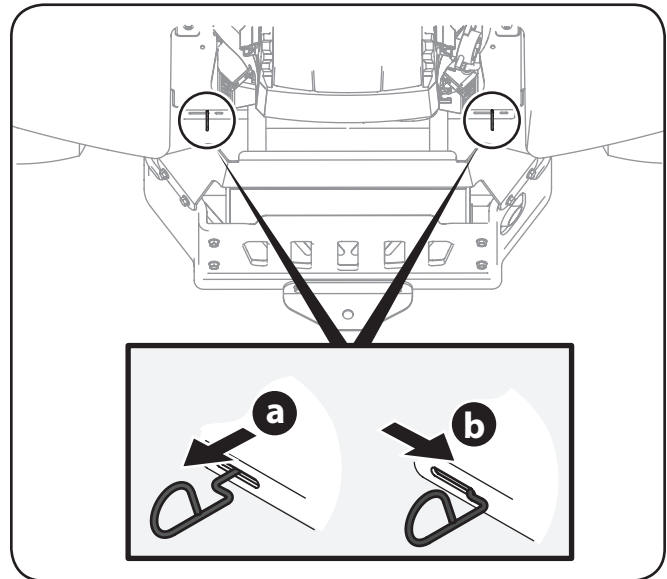

Figure 6-4
1. From the rear of the tractor, just inside the two rear tires, locate the transmission bypass rods. Refer to Figure 6-4.
2. Engage the transmission bypass rods, one on each side of the tractor, to move the tractor manually without starting it. The transmission bypass rods are located on the rear of the tractor, just inside each rear wheel. Engage the bypass rods by pulling each one out (a) and to the right (b) to lock it into place. See Figure 6-4.
3. Disengage the bypass rods by reversing steps a & b after moving the tractor. See Figure 6-4.